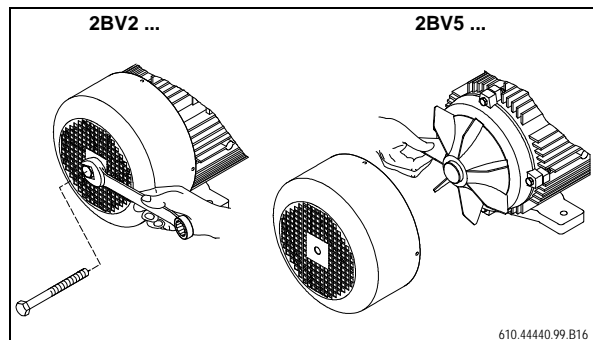

Fig. 15: Turning the shaft
- Open the screwed plugs in all drain tapplings (item 4, page 3).
- Whilst doing so turn the shaft in its normal direction from time to time (Fig. 15, page 24).